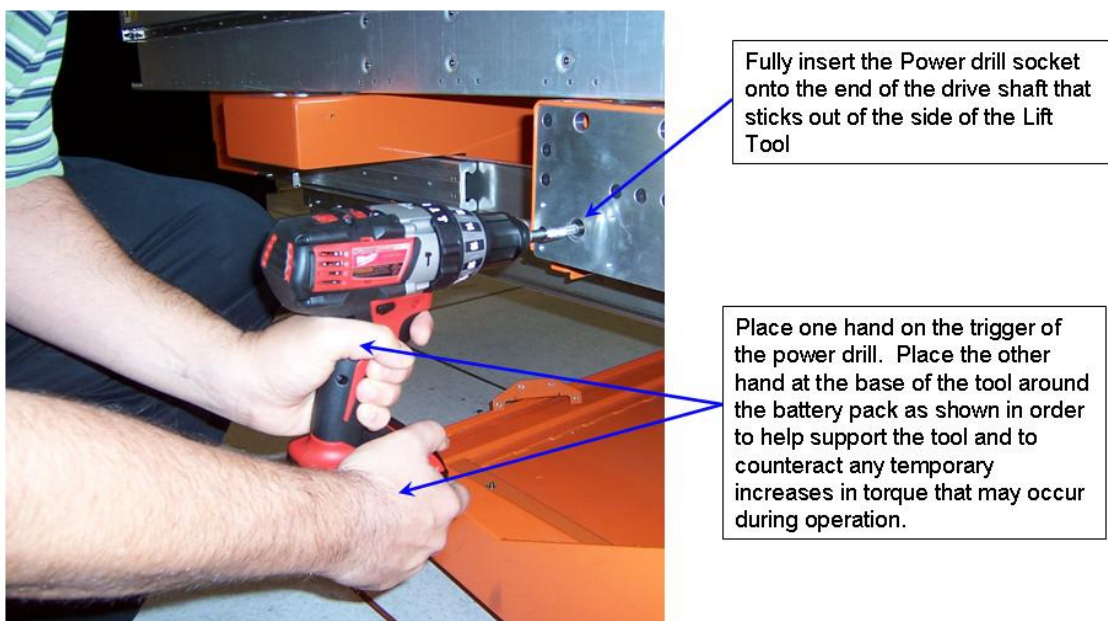

Figure 35 Power Drill Operation – Correct Technique
- Use two hands to operate the battery powered drill as it is a high torque tool (see Figure 35).